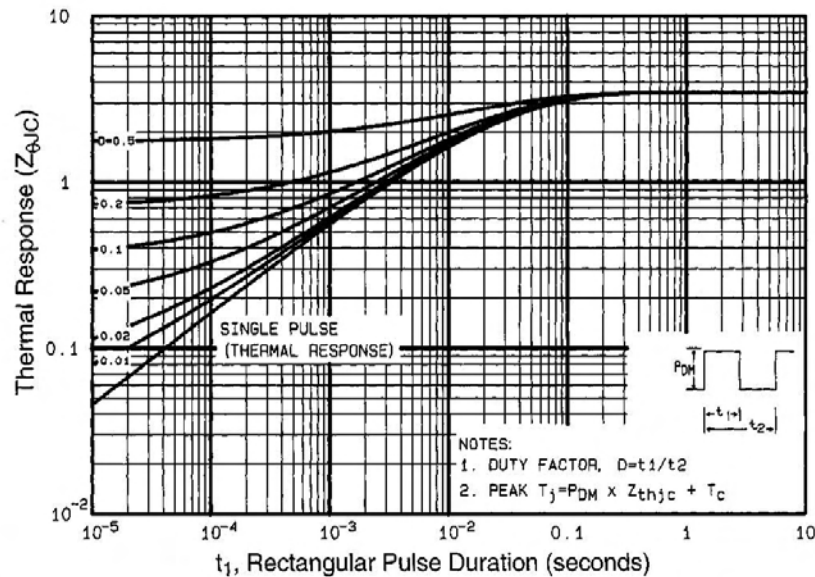

Fig 11. Maximum Effective Transient Thermal Impedance, Junction-to-Case
① Repetitive rating; pulse width limited by max. junction temperature (See Figure 11)
③ $I_{SD} \leq 3.3A$, $di/dt \leq 70A/\mu s$, $V_{DD} \leq V_{(BR)DSS}$, $T_J \leq 150^\circ\text{C}$